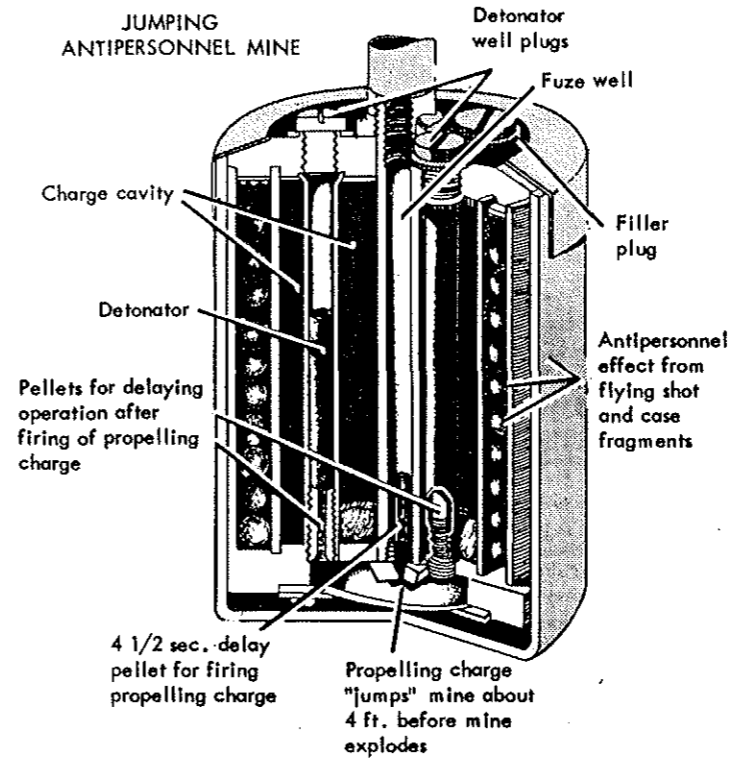

Figure 34.
14. How effective is the mine against vehicles, boats, structures, or personnel? What is the effective bursting radius? At what height does a jumping-type mine (fig. 34) detonate?